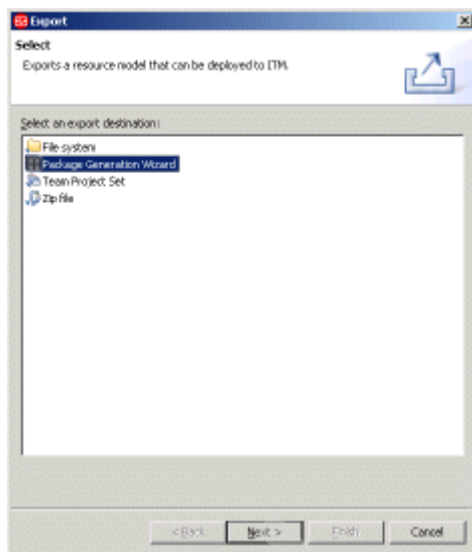

Figure 9-65 Export: Select window
41. Select **File** → **Export**. The Export: Select window displays as shown in Figure 9-65 on page 481.